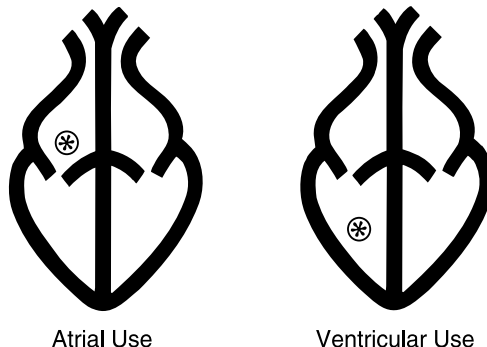

Figure 8-4. The Model 5433A Atrial Use Symbol and the Model 5433V Ventricular Use Symbol.
- The Model 5433A, for atrial use, has a blue connector block and blue band around the terminal pin block. The connector block has a symbol denoting Atrial Use printed on one face (see Figure 8-4).
- The Model 5433V, for ventricular use, has a white connector block and white band. The connector block has a symbol denoting Ventricular Use printed on one face (see Figure 8-4).